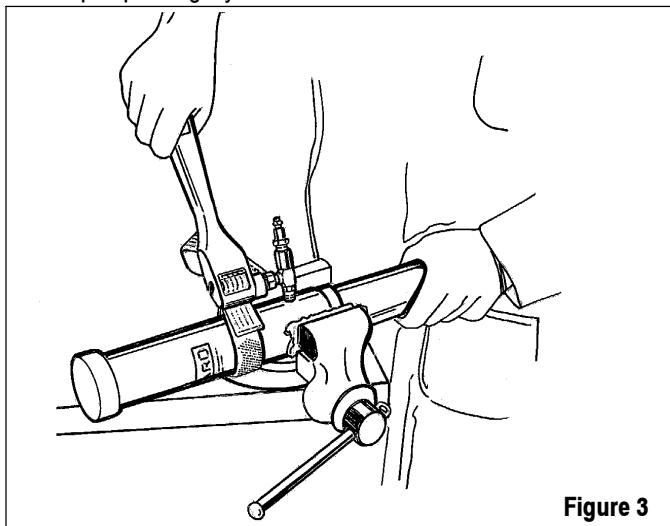

Figure 3
- Remove (3) "O" ring.
- Using a strap wrench, as shown in figure 3, unthread and remove the (6) cylinder from the (18) pump body.
- Remove (16) "O" ring from the (18) pump body.
- Unthread and remove (7) spacer and piston assembly from the (13) plunger tip.
- Remove (12) gasket from (13) plunger tip.